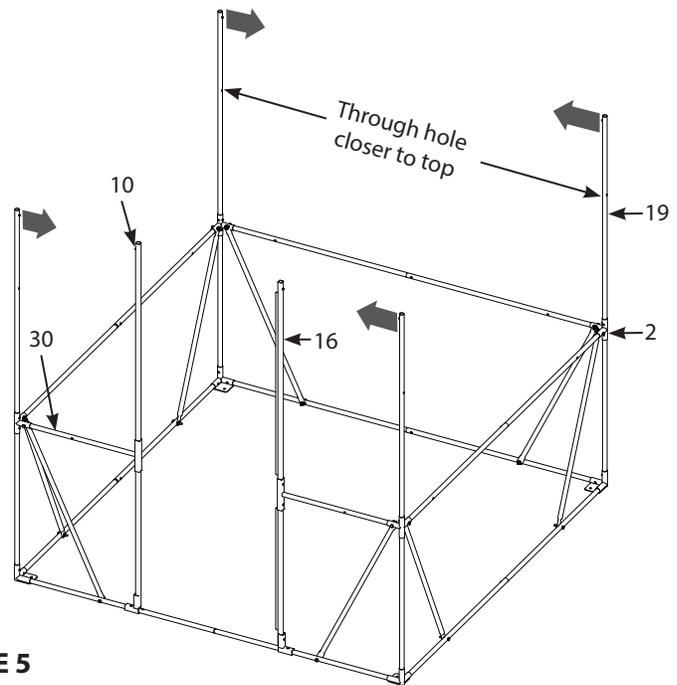

FIGURE 5
5. Slide the four (19) poles into the middle hubs (2) so that the snap buttons secure the parts together. Pay attention to the orientation of the snap buttons. The snap buttons must face each other as shown and each through-hole must be located closer to the top. **SEE FIGURE 5.**
Slide the (10) pole and (16) pole into the (30) parts so that the snap buttons secure the parts together. **SEE FIGURE 5.** Be sure that the door stop plate on pole (16) is facing interior of blind.